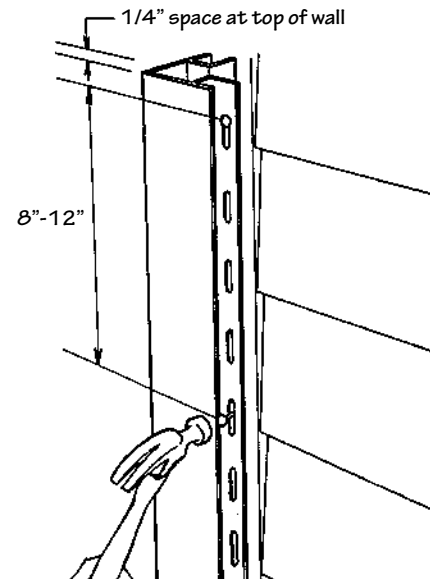

Figure 27.
- Place the corner post in position, allowing a 1/4" (6.4mm) gap between the top of the post and the eave or soffit. Position a nail at the top of the upper slot on both sides of the corner post, leaving a gap of approximately 1/32" (0.8mm) between the nail heads and the corner posts. The corner post hangs from these nails. The balance of the nailing should be in the center of the slot, 8" to 12" (203mm to 305mm) apart, again leaving 1/32" (0.8mm) between the nail head and the corner post. This allows for the expansion and contraction to occur at the bottom. The corner post should extend 3/4" (19mm) below the starter strip. Make sure the posts are plumb (i.e., vertically straight) and square to the wall (Fig. 27 and 28). Cut away any exposed nail hems.